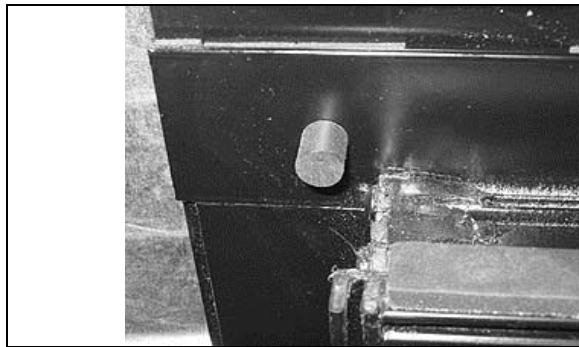

FIGURE 77 : SLIDING WINDOW - RUBBER BUSHING
3. Check for presence of 1 rubber bushing at each interior corner (see FIGURE 77) and 2 other bushings under the sliding window;